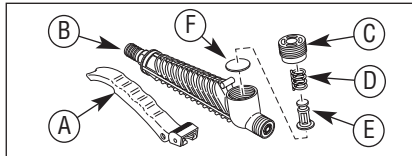

Figure 16. Shut-off Maintenance
4. Reinstall the diaphragm and plunger, nut & spring assembly. See Figure 16.